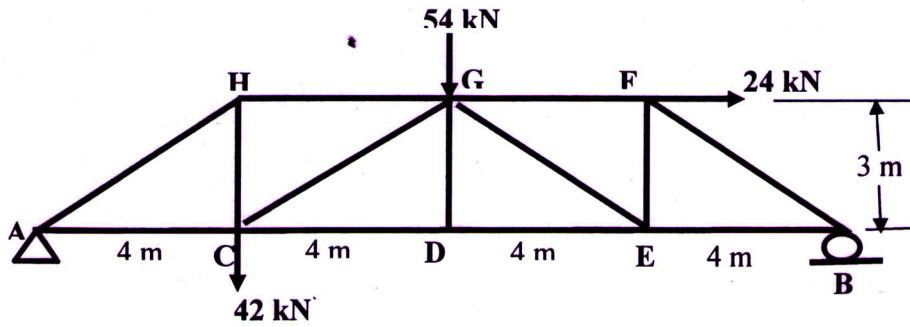

Figure 1
- 11 **Figure 1** shows a loaded truss of span 16 m. Determine the support reactions, analyse using method of joints and tabulate the forces in all the members. 14